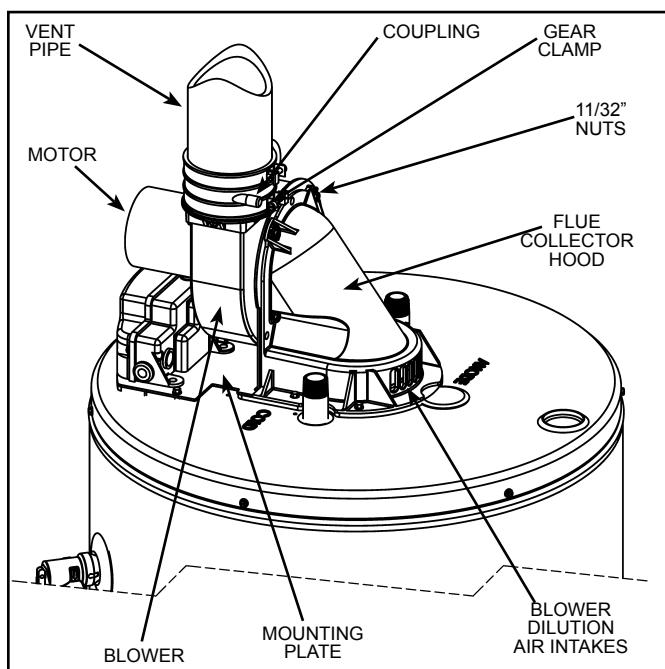

Figure 48
Inspect the top of the heater and around the ventilation openings of the blower motor and the rear blower dilution air intakes for any lint and dust that may have accumulated. Depending on the location of the heater, significant quantities of lint may accumulate. The lint may obstruct the free flow of air to the motor, and cause the motor and blower to run hotter than normal (see Figure 48).
4. Disconnect the vent piping from the top of the blower. Loosen the lower gear clamp that holds the rubber coupling to the blower (see Figure 48).
5. Remove and retain the (4) 11/32" nuts located on the back of the blower with the nutdriver (see Figure 41 & Figure 48).
10. With all parts cleaned and the blower wheel turning freely, reinstall the blower to the mounting plate aligning the (4) studs and pushing tight against the mounting plate.
11. Reinstall the (4) 11/32" nuts and tighten securely. All (4) nuts must be in place and secure to safely operate the blower.